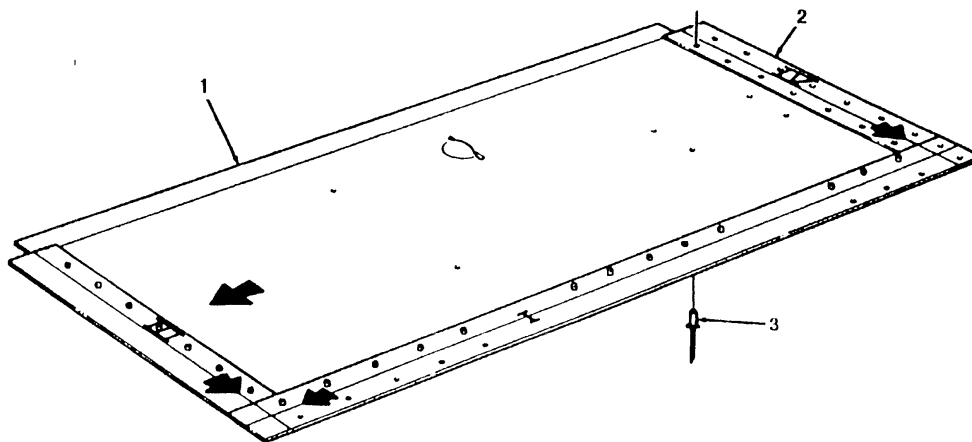

FIGURE 3-47
5. Position metal strip "IV" (2) to insert panel (1) and secure with seven NSN 5320-01-271-6357 rivets (3). (see figure 3-47)
6. Remove adhesive residue and clean edges on metal strip "IV" (2) and insert panel (1).